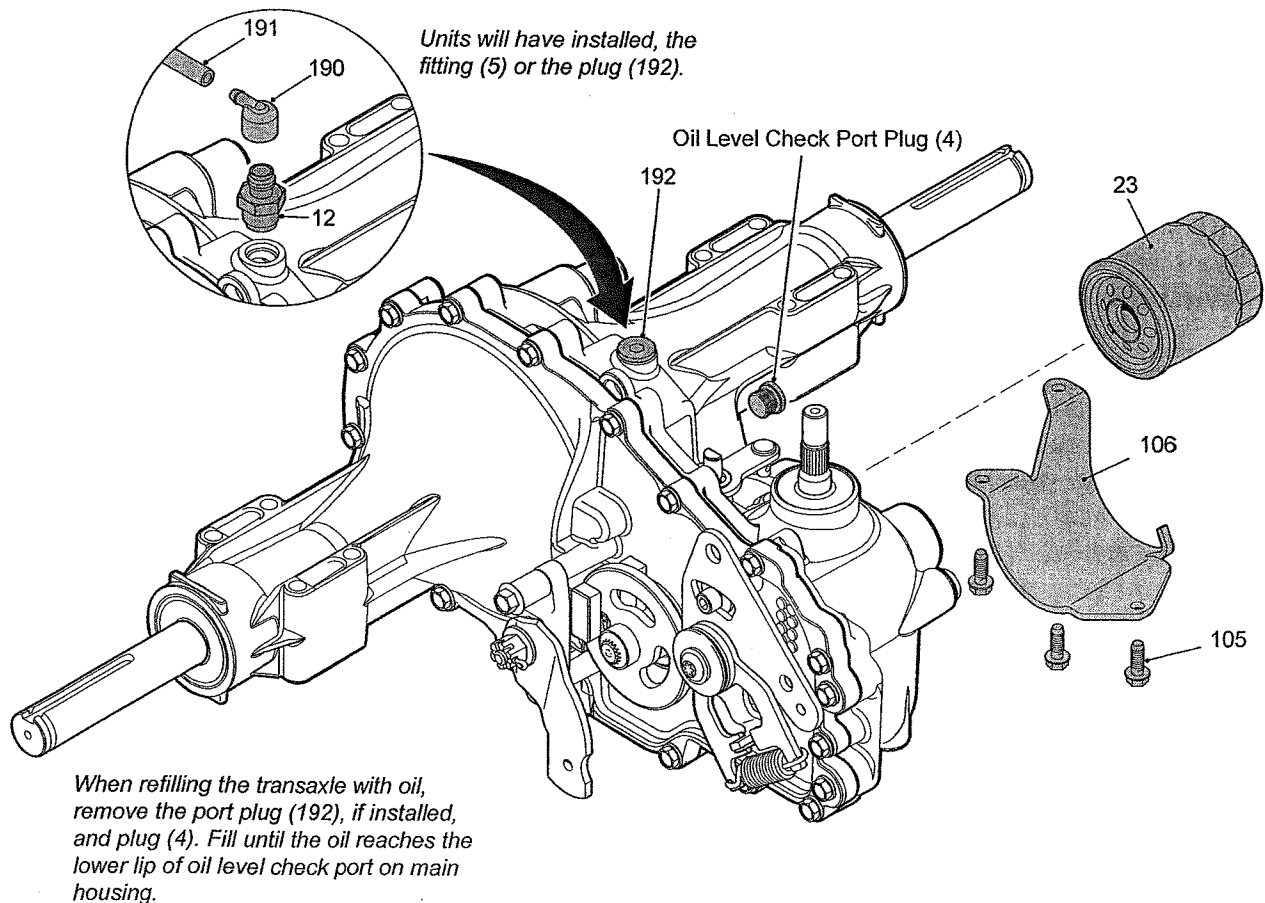

Figure 3, Filter and Guard
Refer to Figure 3
1. Remove the three 1/4" filter guard screws and filter guard. Clean any loose debris from around the perimeter of the filter. See figure 3.